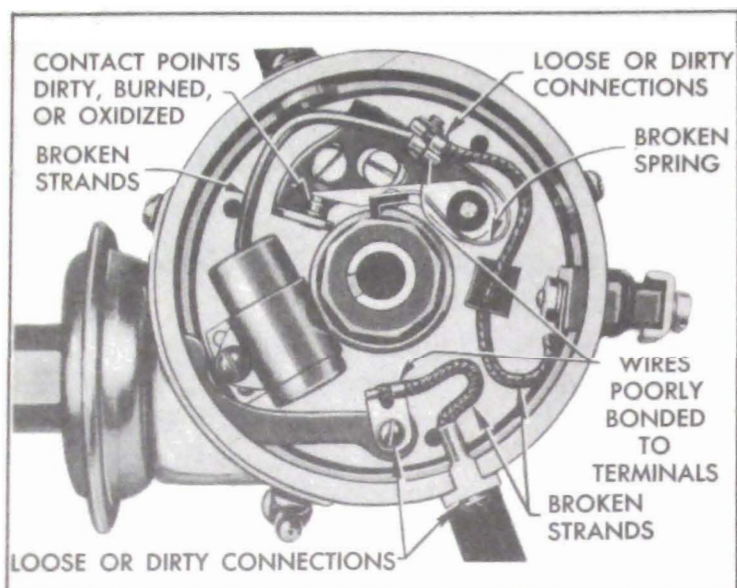

Figure 10-69—Points of Resistance in Primary Circuit of Distributor
1. Check contact point and condenser connector leads and breaker plate ground lead for loose or broken connections. Inspect for broken breaker arm spring and loose or broken rubbing block. See figure 10-69.